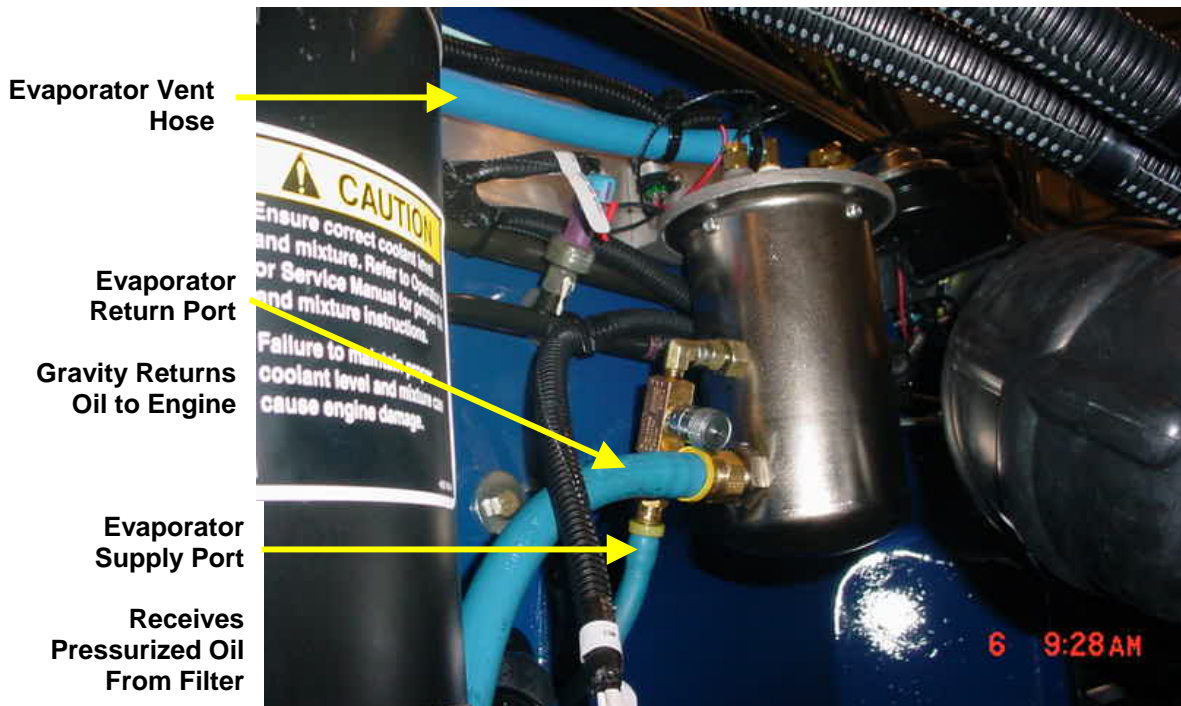

Figure 9 – Location of Evaporator Supply and Return Ports
8. Route the second end of the hose next to the **return** side of the evaporator, and attach it to the evaporator. See Figure 9.